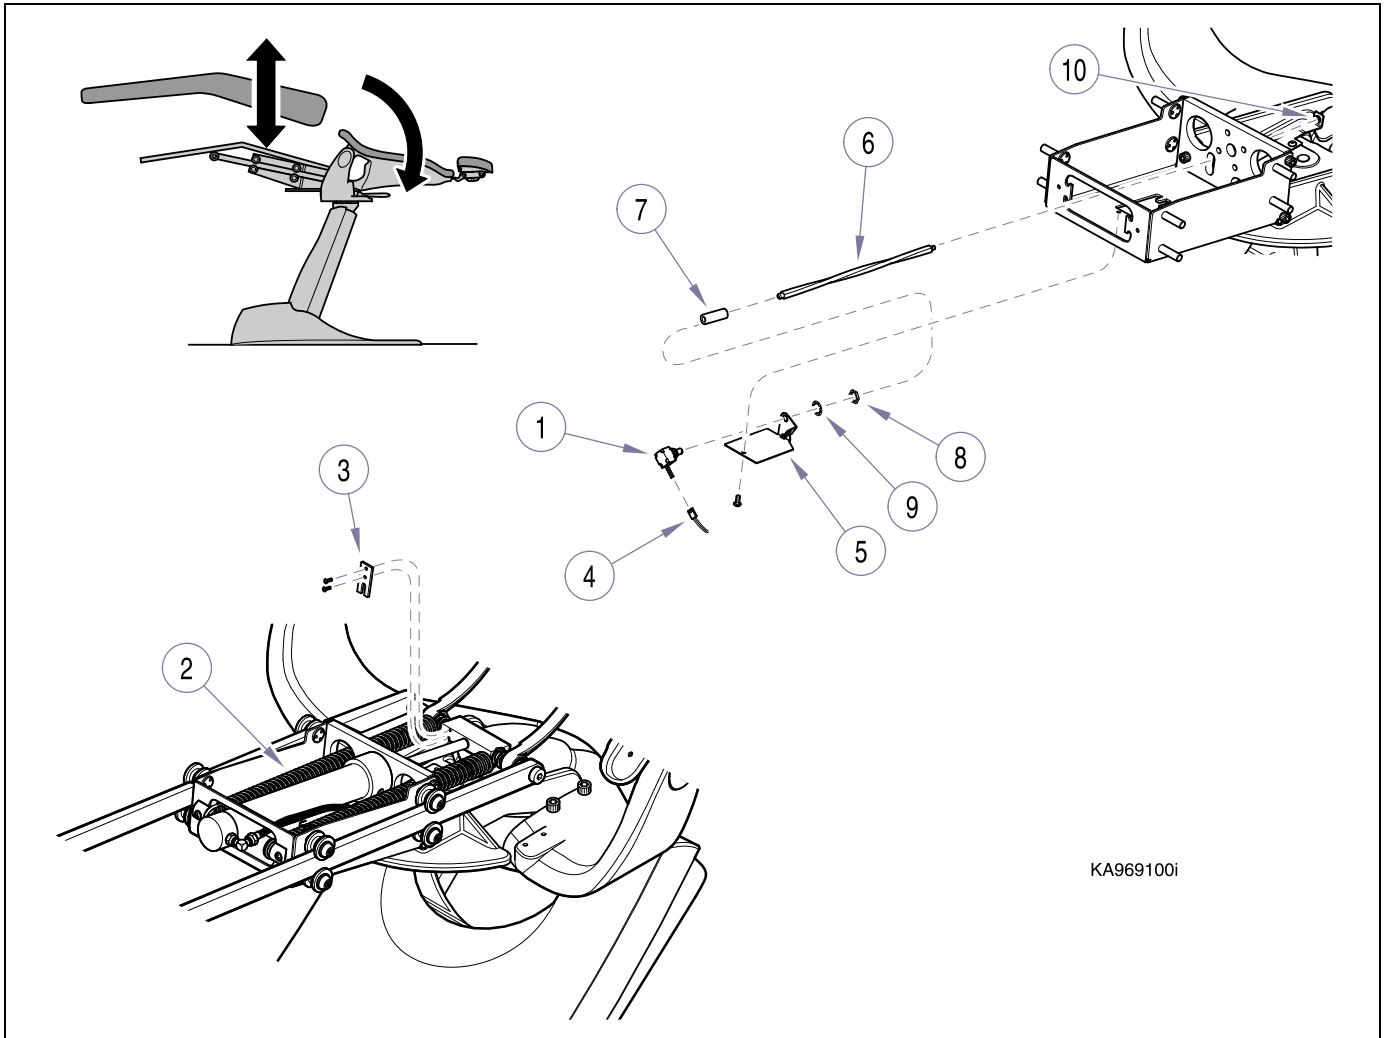

Figure 4-21. Back Potentiometer.
If necessary, back positioning potentiometer (1, Fig. 4-21) can be over-riden in order to operate Back section.
- (2) Place chair back in full Back Down position and disconnect lift spring (2, Fig. 4-21) on patient's right side.
- (1) Secure potentiometer (1, Fig. 4-21) to back sensor bracket (5) with lockwasher (9) and mounting nut (8).